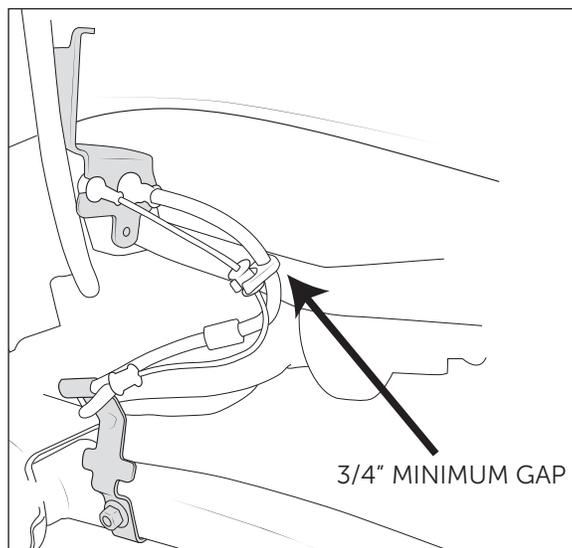

Figure 21
17. **IMPORTANT STEP PLEASE FOLLOW CLOSELY.** With vehicle sitting at ride height, check clearance between brake hose and upper control arm. Minimum 3/4" gap should be maintained, too little clearance could allow rubbing of brake hose and eventual leak. If gap is too small, use a crescent wrench to twist rear edge of brake hose bracket on lower control arm and bracket mounted to the frame outward until desired clearance is met (fig. 21).